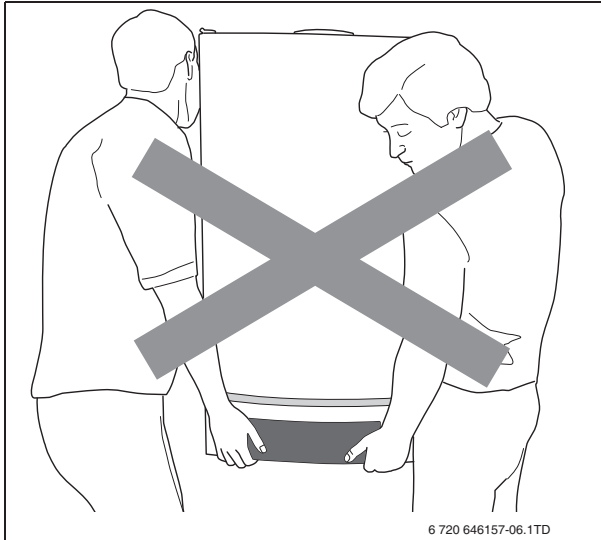

Fig. 6 Incorrect way of lifting and carrying the boiler
- ▶ Do not hold the boiler by the door covering the control panel (fig. 6)